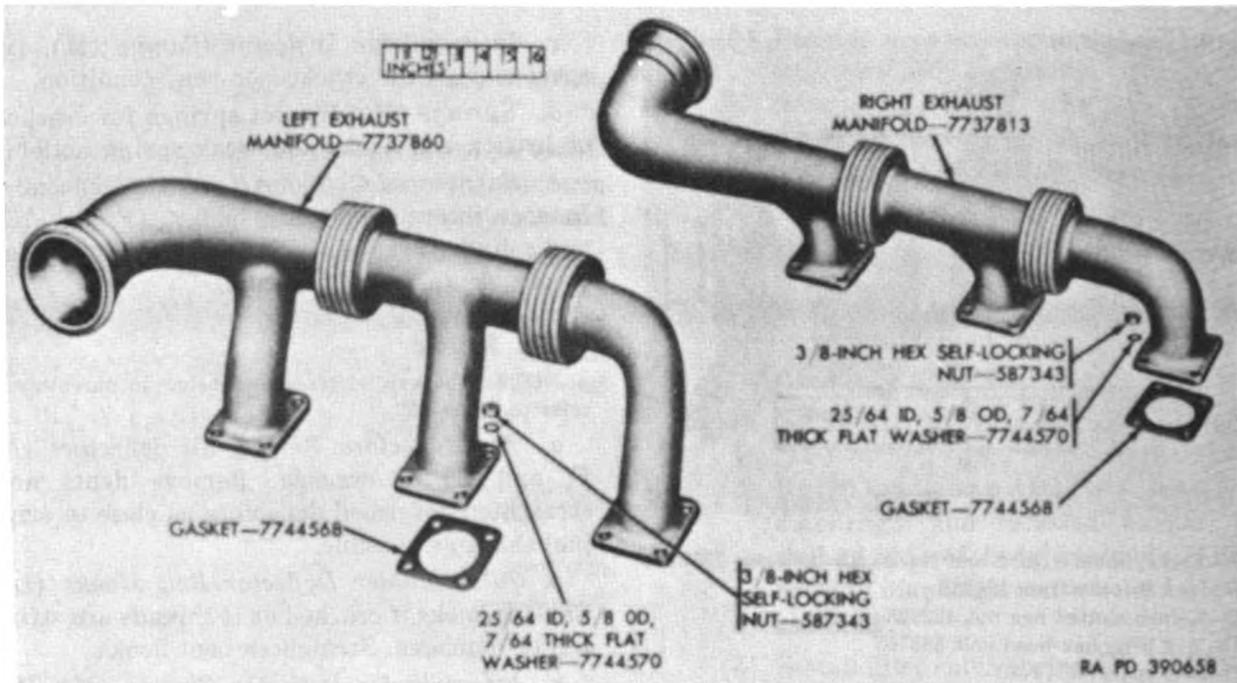

Figure 154. Exhaust manifolds (model AOSI-895-5 engines only)—exploded view.
The left and right exhaust manifolds (figs 154 and 155) are welded and cannot be disassembled except for the removal of the hotspot outlet covers (D, fig. 155) from the model AOSI-895-5M engine exhaust manifolds. To remove the covers, cut locking wire and remove three hex-head bolts (E, fig. 155) and remove the covers. Remove and discard gaskets (C, fig. 155).
- a. *Exhaust Manifolds (A and B, fig. 155, and fig. 154).*
- (1) Inspect manifolds for cracked or damaged bellows and flanges.
- (2) Inspect welded areas at joints for cracks or holes.
a. Exhaust Manifolds (A and B, fig. 155, and fig. 154).
- (1) Replace manifolds if bellows or flanges are cracked. Repair cracks by welding, if possible.
- (2) Replace manifolds if welds at joints